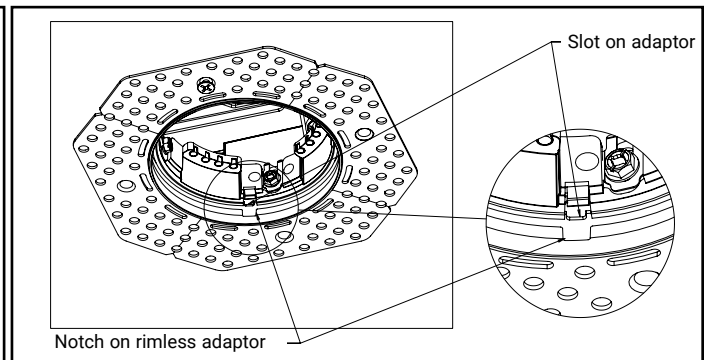

Figure 4.
11. Carefully locate the slots on the adaptor inside the ceiling and align notches in a rimless adapter with screws on collar, insert rimless adapter into the ceiling, and push rimless adapter against the ceiling (Figure 4).